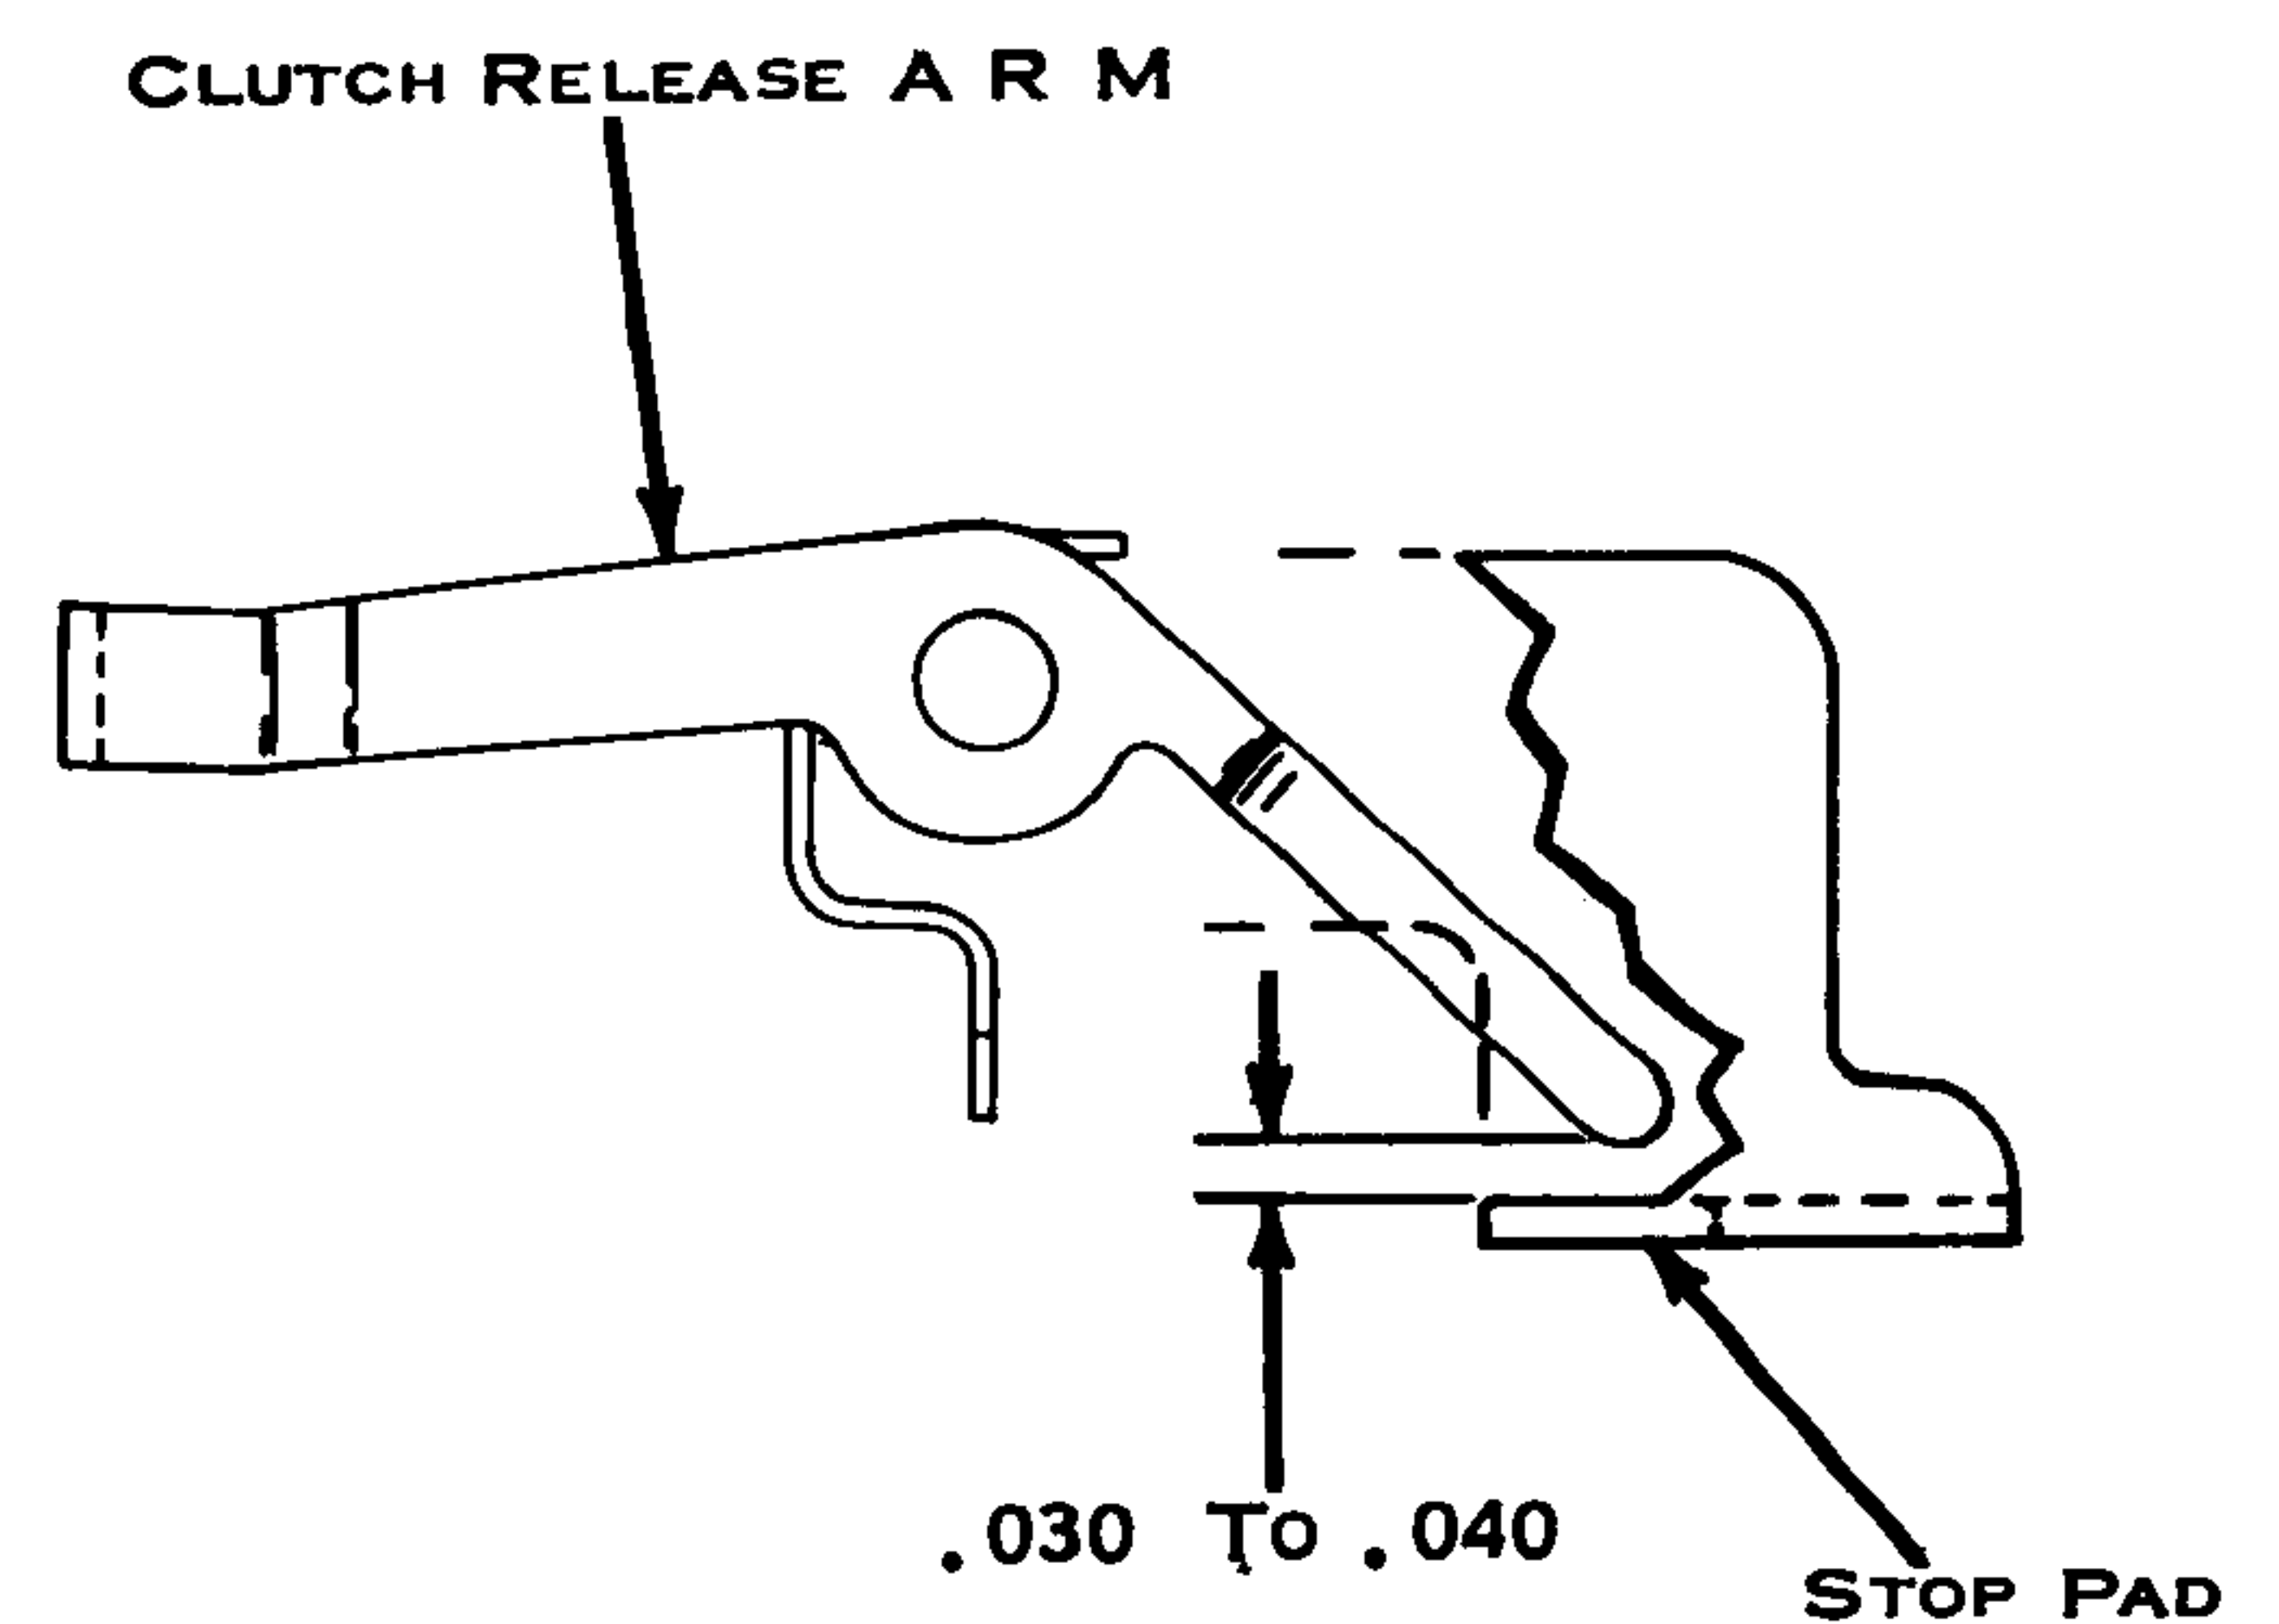

Figure 124. Clutch Release Arm Stop Pad
6. Clutch Release Arm Stop Pad (Fig. 124) - Form the stop pads so that when the clutch release arm is on the high point of the cam ring, there is .030" to .040" between the stop pad and the release arm.